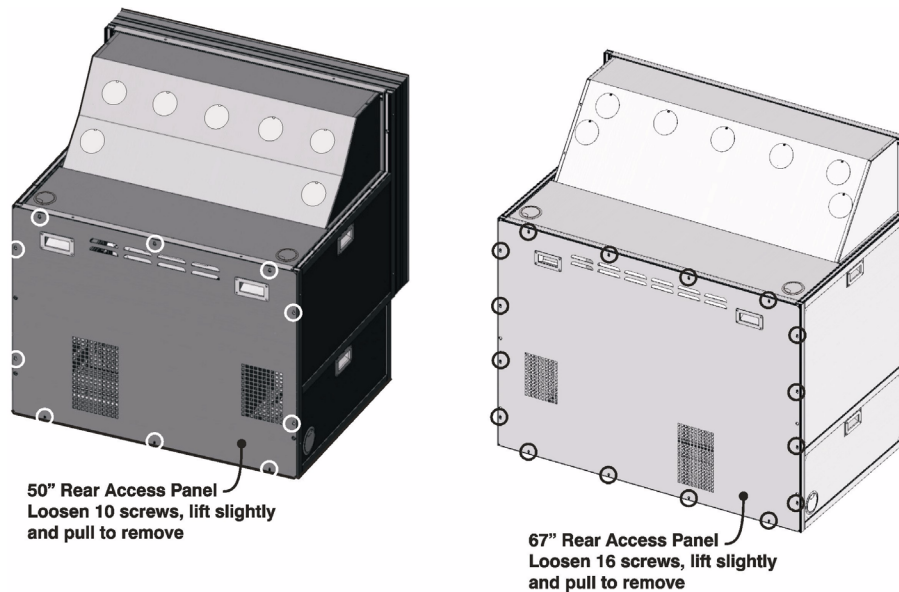

FIGURE 2-1 REMOVING THE REAR ACCESS COVER
2. Remove the rear access panel from each display cube enclosure by loosening the screws around the perimeter of the panel (Figure 2-1). Use the moulded handles at the top of the panel to lift the panel slightly to clear the screws, and then pull to remove. Set the panel aside in a low traffic area where it will not be damaged. It will not be re-installed until the very end of installation.